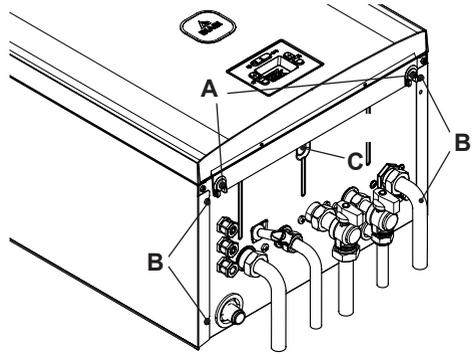
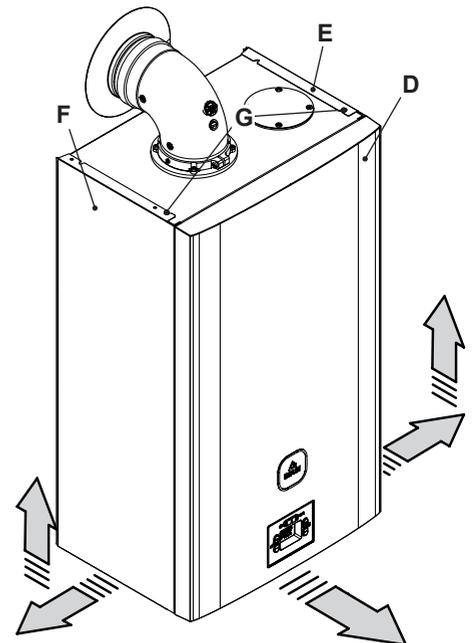

Figure 9.1
Figure 9.2
Unscrew the screws **A** and remove the front panel **D** by pulling it towards you and then pushing it upwards in order to free it from the upper seats (Figure 9.1 and Figure 9.2).
Loosen screws **B** and **G** in Figure 9.1 and Figure 9.2, then remove the two side pan-
- Unscrew the screw **C** in (Figure 9.1).